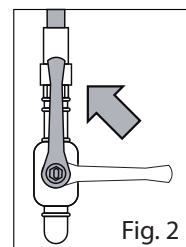

Fig. 2
- Open the cut-off cock upstream the equipment (Fig. 2);
- Reassemble the screw with gas seal washer in the appropriate seat, open the cut-off cock upstream the machine (Fig. 2) and check by turning the burner on, that there are no gas leakages.